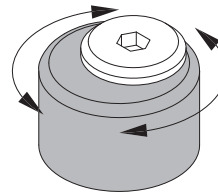

Figure 8
- To rotate, loosen the JC bolt slightly with a 4mm hex wrench. **Figure 8.**